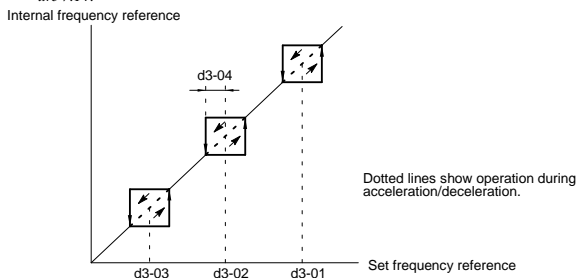

Fig 7.14 Setting Prohibited Frequencies
- The relation between the internal frequency reference and the set frequency references is shown in Figure 7.14.